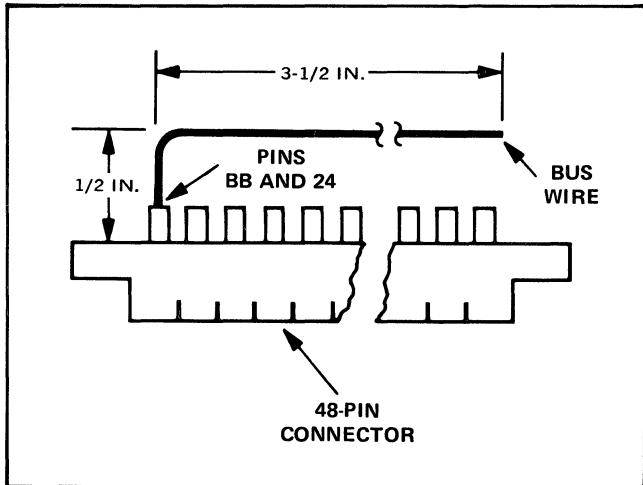

Figure 2-1. Bus-Wire Details
2-15. Tables 4-3 and 4-5 list pin connections and the corresponding signals on the 48-pin connectors of the modified I/O control card and the multiplexer data card. Using tables 4-3 and 4-5 and figures 2-1 and 2-2, fabricate the interconnecting cable assemblies as follows:
- c. Prepare a bus wire from 22-gauge bare-copper wire and solder it to pins BB and 24 of the connector as shown in figure 2-1.